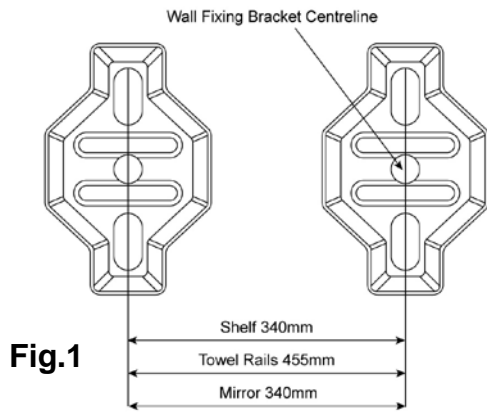

Fig.1
1. Select position of product and mark its centre on wall. **(Refer to Fig. 1 for centre positions of double mounting items.)** Centre the wall fixing bracket over the mark and using it as a template mark the screw fixing positions on the wall surface.
6. Select the position for the mirror and fix the wall fixing brackets in place referring to both the dimensions shown in Fig 1 and the instructions for double mounted fixing.